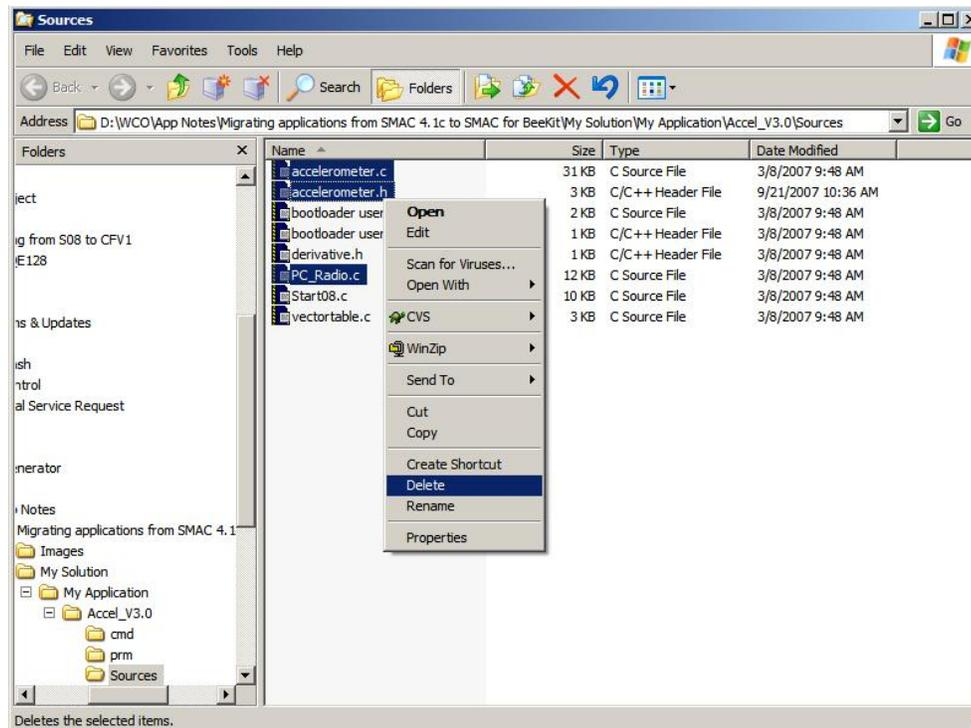

Figure 13. Deleting Accelerometer Demonstration Files
- When Windows Explorer appears, delete the `accelerometer.c`, `accelerometer.h` and `PC_Radio.c` files as shown in Figure 13.